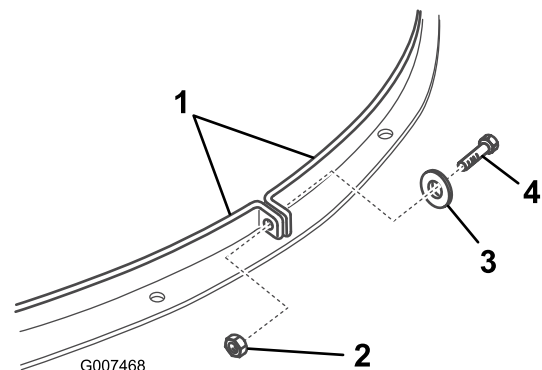

Figure 18
10. Remove the bolt, washer, and nut that secure the 2 strap ends together (Figure 18).
14. Join the 2 strap ends around the Recycler cover as shown (Figure 18).
9. Remove the bolt, washer, and nut that secure the 2 strap ends together (Figure 18).
15. Join the 2 strap ends around the discharge chute as shown in Figure 18.
16. Align the holes in the strap ends and fasten them together snugly with the bolt, washer, and nut you previously removed (Figure 18).